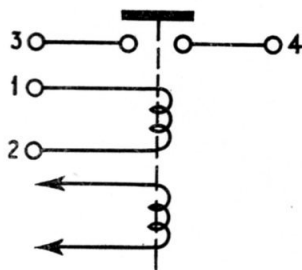

Fig. 1. Internal connections
2. The relay is fitted with one case unit and two operating coils, the internal connections being shown in fig. 1. The coil leads are not coloured for identification, but on a new coil assembly, the leads for connection to terminals No. 1 and No. 2 on the case unit are provided with red and black markers respectively. Since these markers are cut off on assembly, it will be necessary to identify the leads by suitable tags if dismantling is contemplated. The other coil has free leads which are connected directly into the associated circuit.